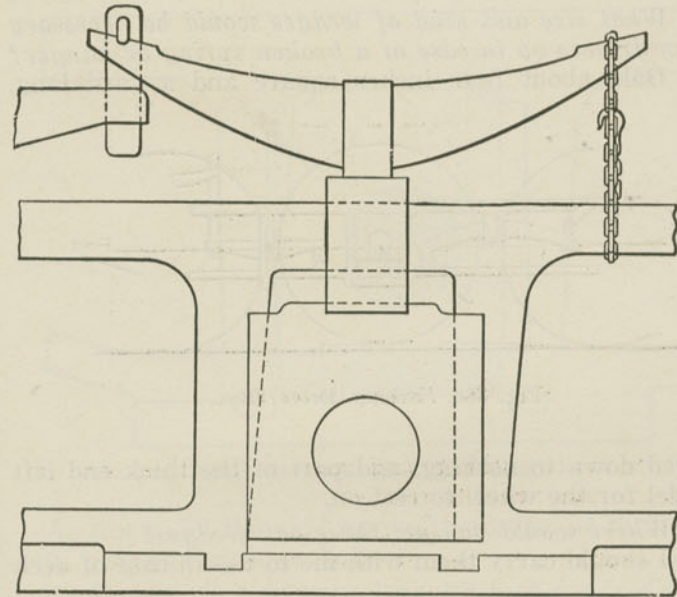

Fig. 385. Broken Spring Hanger.
A. A chain, if there is one handy. (Fig. 385.)